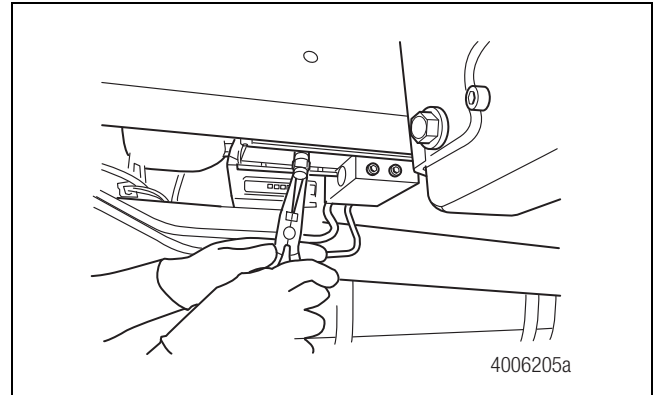

Figure 4.34
1. Use light hand pressure to slowly seat the pump into the bore. Use care not to damage the O-rings. Figure 4.34.